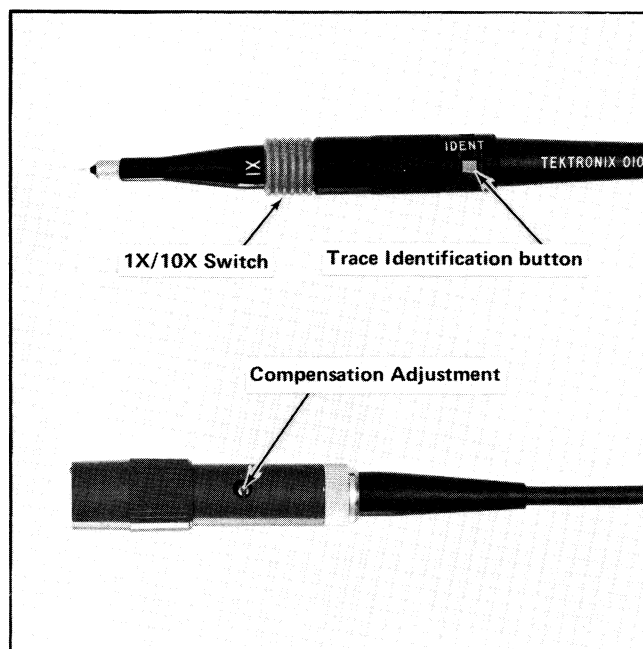
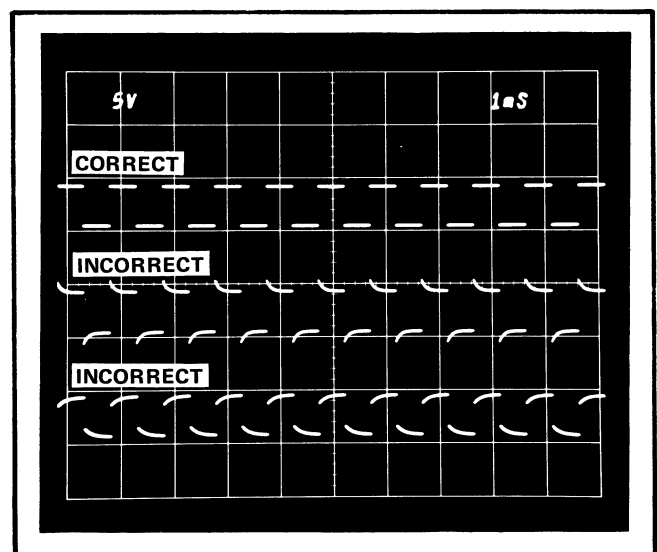

Fig. 2-1. Probe trace identify button, 1X/10X switch and compensation adjustment locations.
Fig. 2-3. Probe compensation.
In these versions, the probe attenuator selector switch also changes the Volts/Div readout to correspond to the 1X or 10X attenuation position of the switch for oscilloscopes having the readout feature. Trace identification is accomplished by pushing a button located near the back of the probe body. The pushbutton, when depressed, shifts the trace vertically a small amount. See Fig. 2-1 for the pushbutton location.
Compensation is simply a matter of adjusting the value of a capacitor so that the attenuation ratio remains the same for all frequencies within the range of the probe amplifier combination. This is accomplished by touching the probe tip to a square wave source (typically 1 kHz) and adjusting the resultant waveform display to have a flat top and square corners. See Fig. 2-1 for the compensation adjustment location.
5. Switch the probe attenuation to 10X position, then adjust C8 (Fig. 2-1) through the access hole in the compensation box cover, for optimum pulse flat top. Fig. 2-3 illustrates the correct and incorrect square wave response.